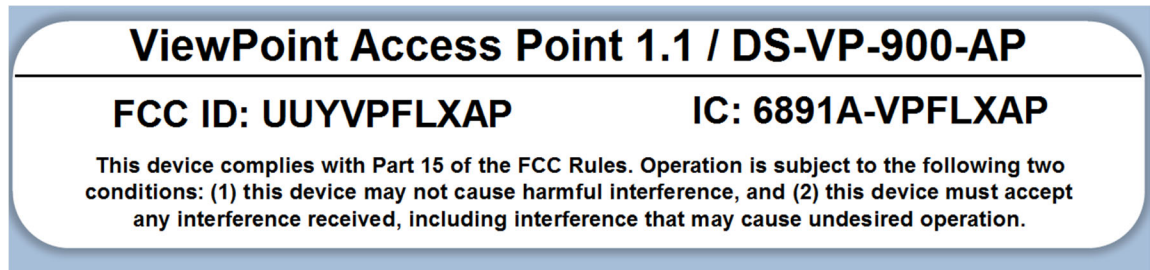

Fig 1.1-1 – FCC Warning Label
- Fig 1.1-1 – FCC Warning Label